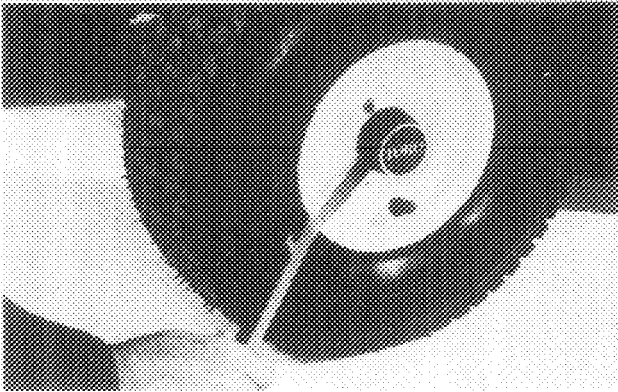

Figure 36
3. Use a pry bar to lever the hub cap off the axle (Fig. 36).